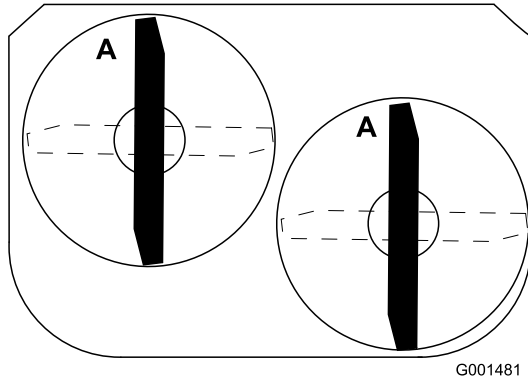

Figure 53
1. Rotate the blades until the ends face forward and backward (Figure 53).